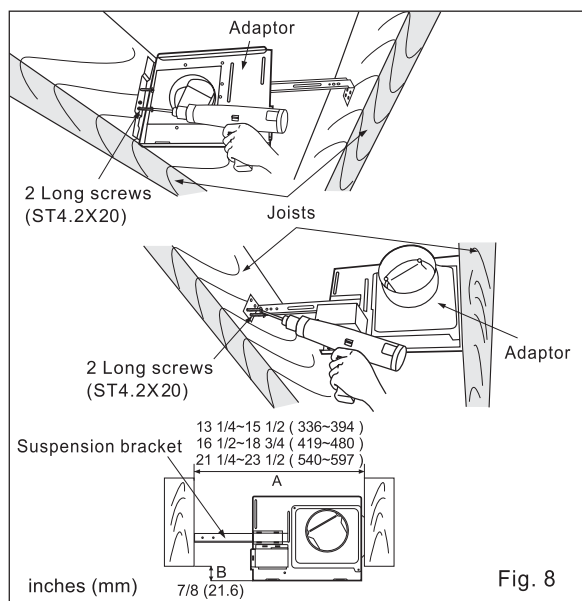

Fig. 8
2. Insert the suspension bracket into the adaptor and secure it to joists by using long screws (ST4.2X20) (Fig. 8) Keep the distance B (7/8 inch, 21.6mm) for the thickness of ceiling board.
- Remove adaptor from fan body and secure it to joists as in Fig.8 of page 7.